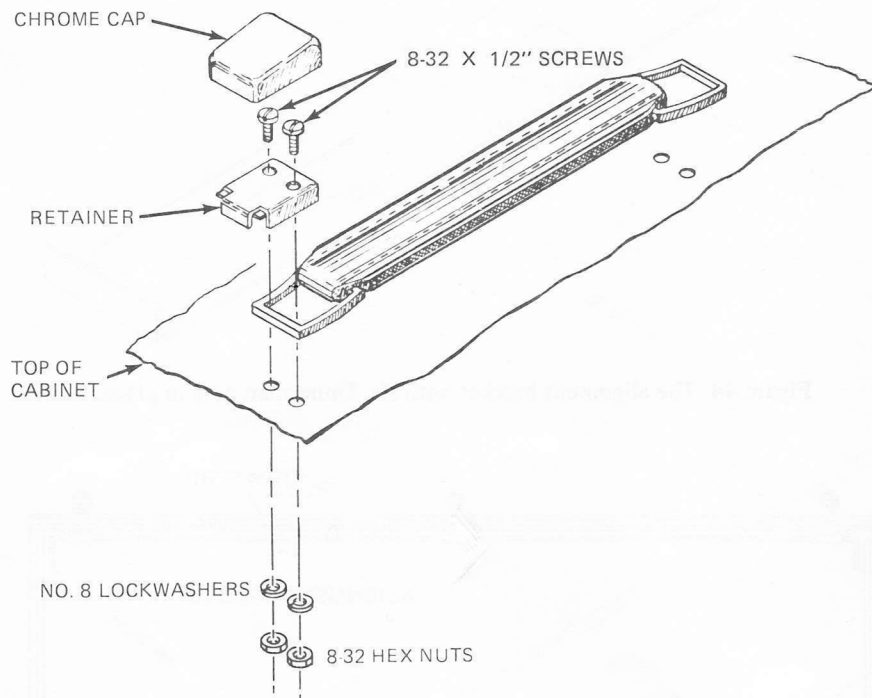

Figure 46. Installing the handle.
(5) Refer to Fig.46 and attach the handle assembly to the top panel and to the chassis with four 8-32 \times 1/2" machine screws, four No.8 lockwashers, and four 8-32 hex nuts. After all four screws are in place, tighten them and the two screws installed in the previous step. Finally snap the two chrome covers into place over the handle brackets ()
(6) Now take the top cabinet half and place it over the top of the oscilloscope, aligning the holes with the holes in the black trim strips. Secure it to the lower cabinet assembly with six 8-32 black Phillips-head screws ()
(7) Tighten all six of the black Phillips-head screws ()